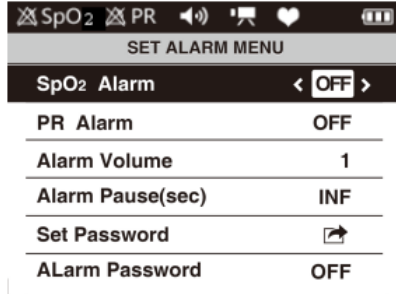

Figure 13. set alarm menu
B. move the choice bar to “Set Alarm” item, then press menu button to enter the set alarm menu of Figure 13.